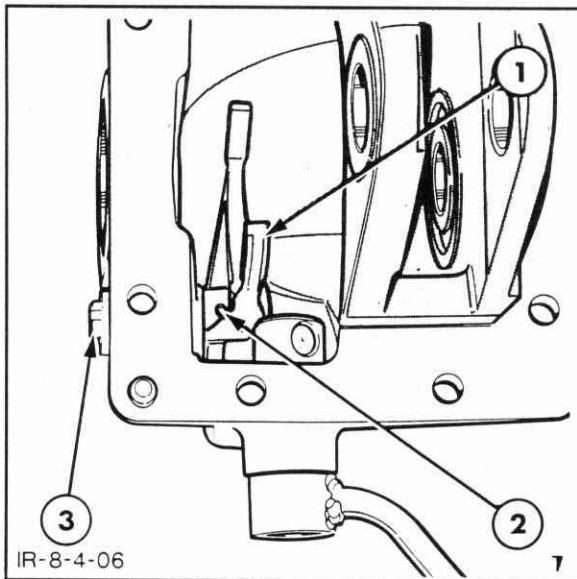

Figure 7-144
9. Using a pin punch, knock the pin securing the fork on the detent shaft into the center of the shaft, Figure 7-144.